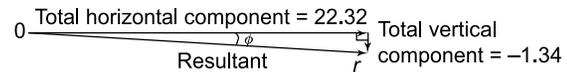

Figure 4.25
- (v) Sketch the total horizontal and vertical components as shown in Figure 4.25. The resultant of the two components is given by length  $0r$  and, by Pythagoras' theorem,